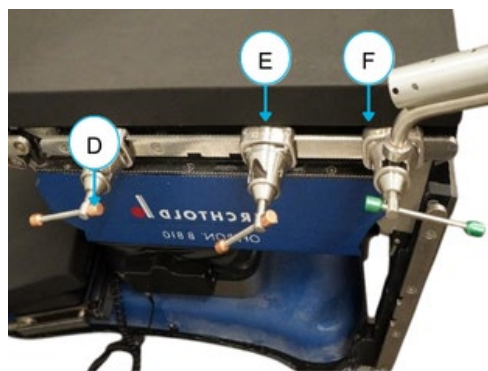

Figure 10-24 : Field Generator Arm Clark Clamp
2. Place the end of the Field Generator Arm in the Clark Clamp (D) on side of bed closest to Generator (**Figure 10-24**).
- The Field Generator should be placed in the Clark Clamp furthest from the stirrup clamp (F), next to the Stabilizer System Clark Clamp (E)